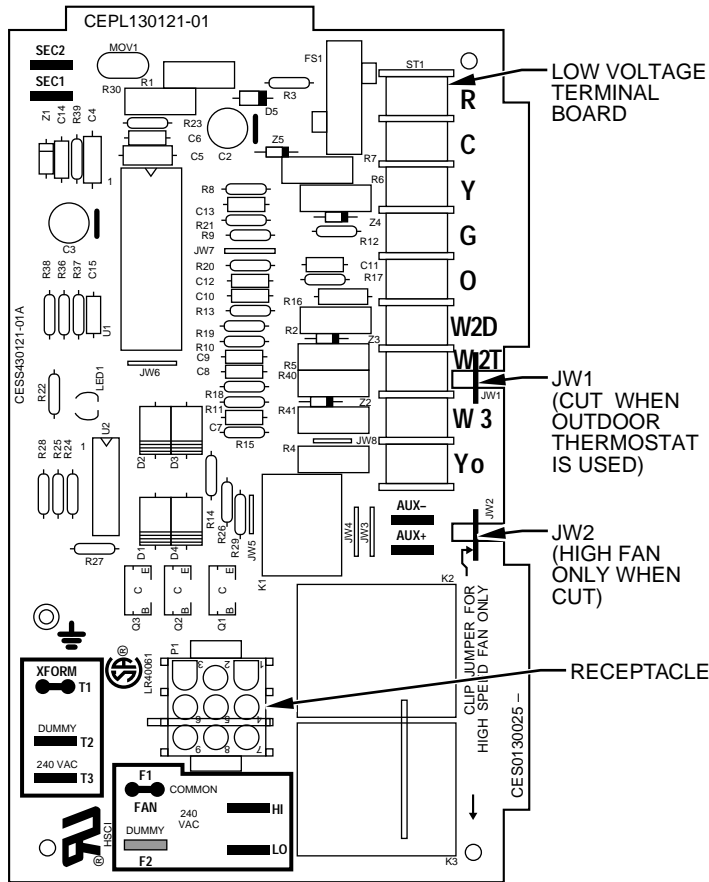

Fig. 38—Smart Heat Printed-Circuit Board (PCB)
2. Jumper wires (JW1 and JW2). (See Fig. 38.)